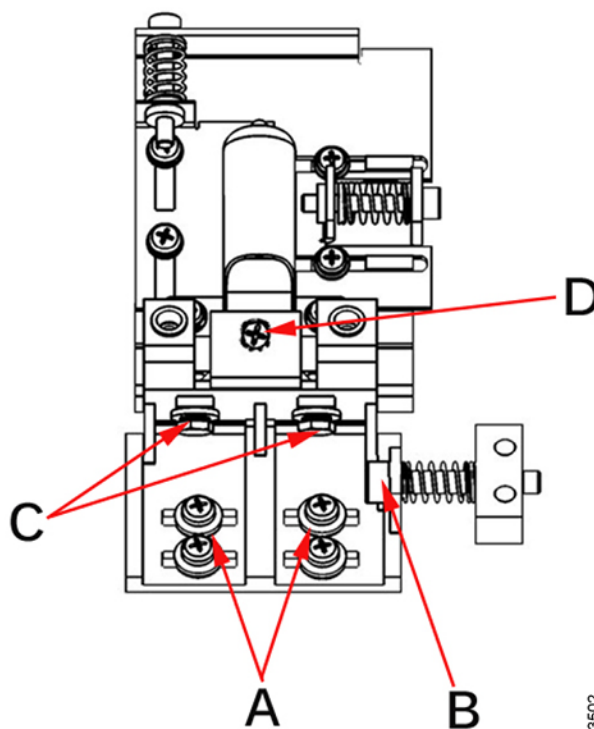

Fig. 4-130 Light field adjustment
2. If adjustment is required loosen the two screws C holding the light support, see **Fig. 4-130**.